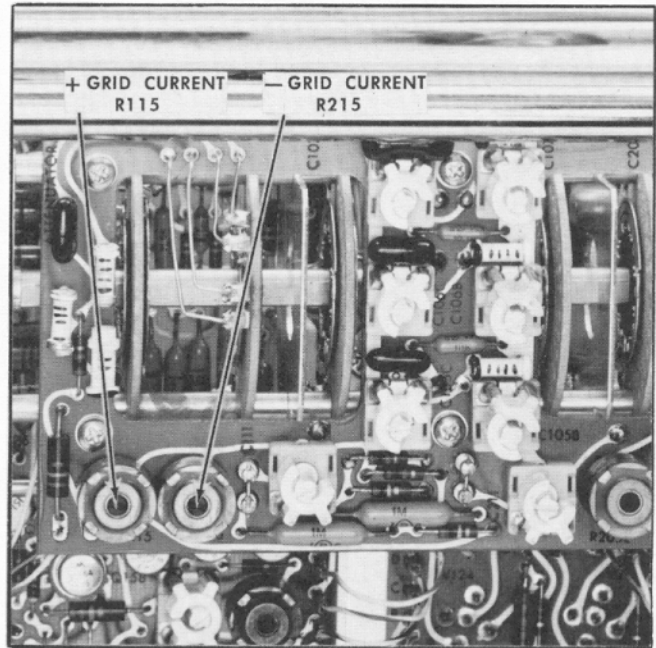

Fig. 6-13. Location of adjustments for steps 6 and 7.
d. Set the +INPUT AC-GND-DC switch to AC. If there is a trace shift, adjust the +GRID CURRENT control (R115; see Fig. 6-13) so the trace is positioned to graticule center. To check if the adjustment is made accurately, set the +INPUT AC-GND-DC switch to GND and back to AC. There should be no trace shift.
d. Set the -INPUT AC-GND-DC switch to AC. If there is a trace shift, adjust the -GRID CURRENT control (R215; see Fig. 6-13) so the trace is positioned to graticule center. To check on the adjustment, set the -INPUT AC-GND-DC switch to GND and back to AC. There should be no trace shift.